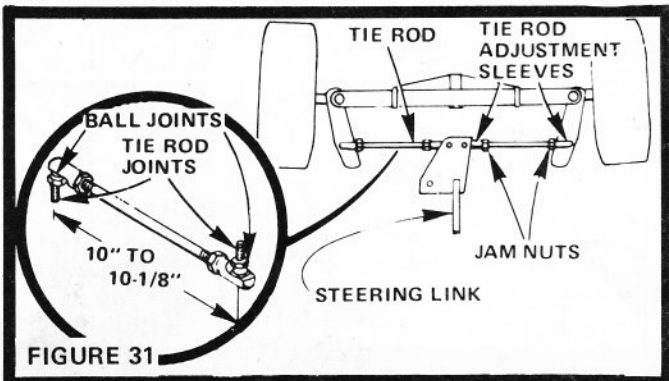

FIGURE 31
- Move Rubber Boots to expose Ball Joints on Tie Rods and Steering Link (Fig. 31).
- Loosen Jam Nuts (Fig. 31) at each end of Tie Rod Adjustment Sleeves.